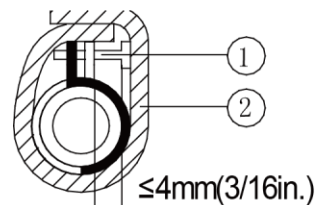

Fig. 4.35
- (3) Perform thermal insulating for Pipe clamp and hose with gasket (perform the thermal insulation after the drainage system test as shown in fig. 4.35 is finished).